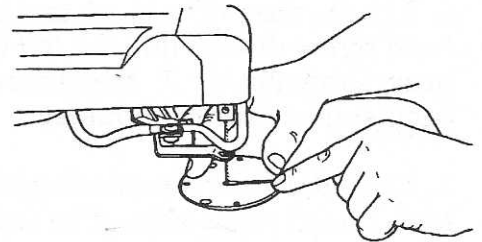

Fig.2
3. Snap the insert in place by pushing it toward the rear of the table and down into the table insert opening. See Fig.2.